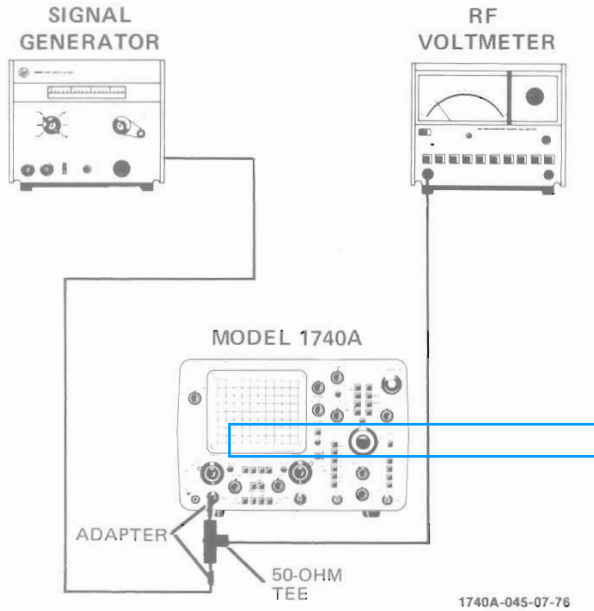

Figure 5-1. Bandwidth Test Setup
a. Connect signal generator and rf voltmeter as shown in figure 5-1.